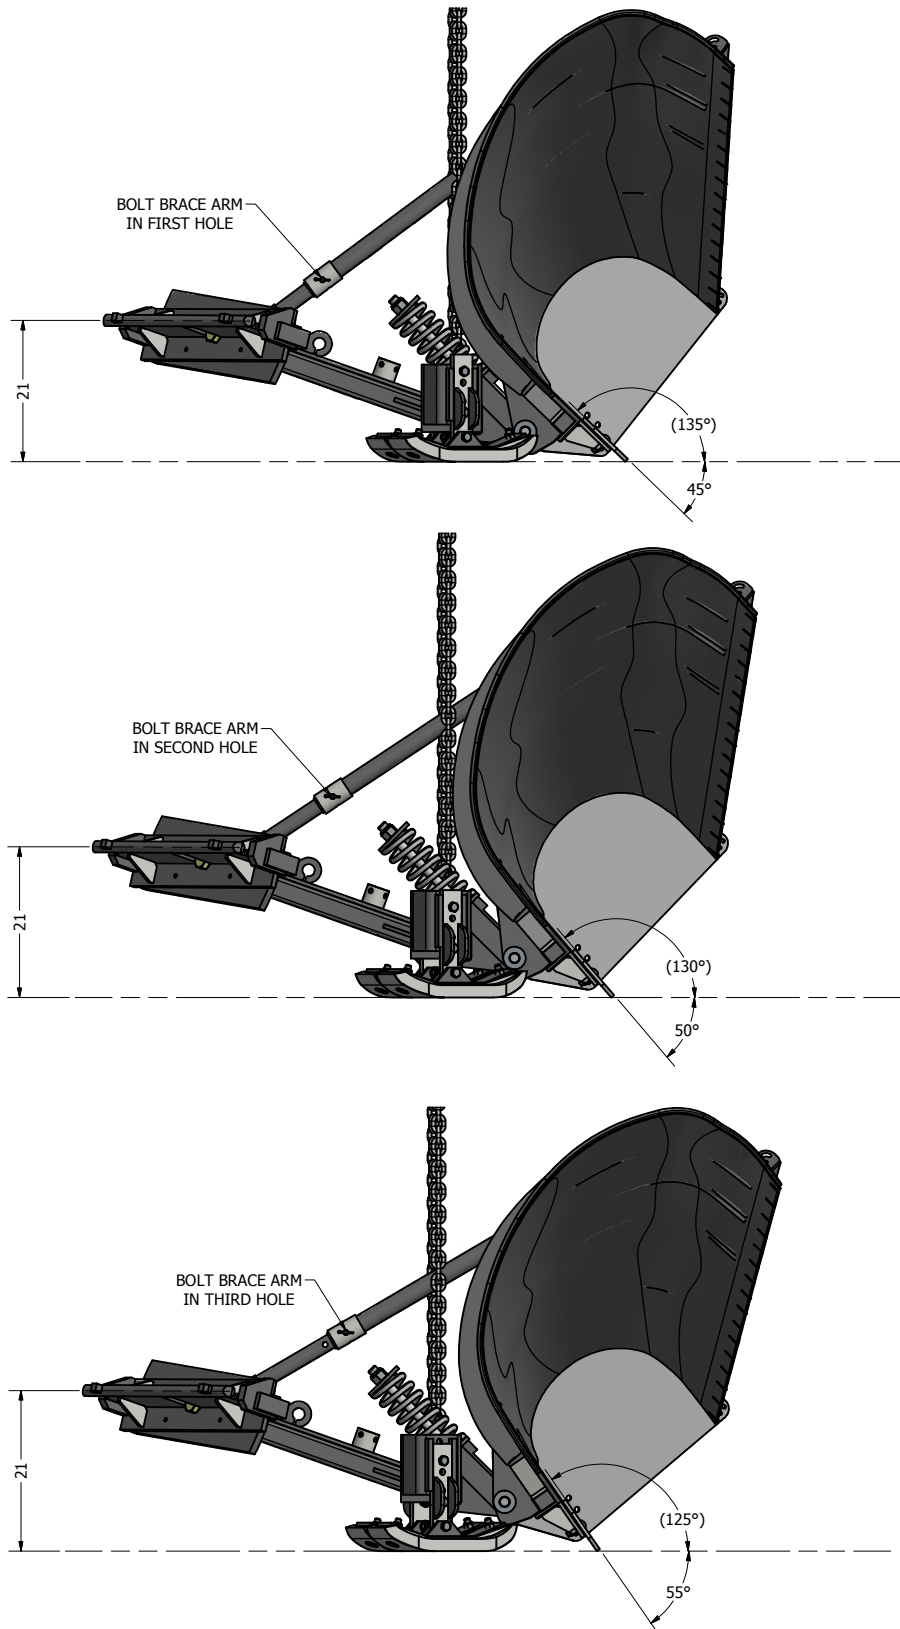

FIGURE 2: DRIVE HEIGHT SETTINGS
7. Adjusting the cutting edge attack angle is accomplished using the pinning holes in the telescopic moldboard standoff arm. Lengthening the arm will increase the attack angle, while shortening the arm will decrease the attack angle. Approved cutting angles are 50-degrees from horizontal for tungsten carbide blades and 45-degrees for standard or hardened steel blades. **NOTE: For tungsten carbide blades, any other attack angles may cause the inserts to “chatter” and break prematurely.** A simple magnetic angle gauge is used for measuring these angles. Refer to Figure 2.